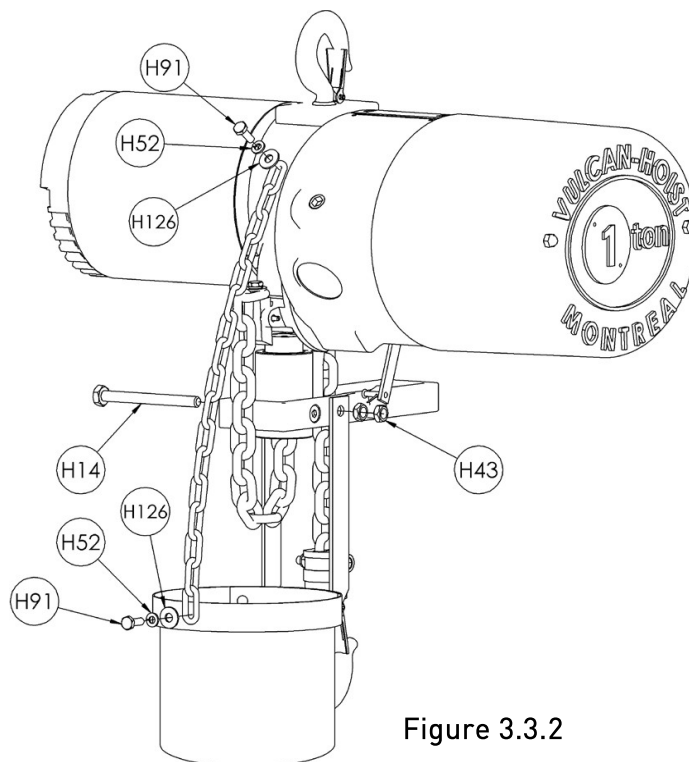

Figure 3.3.2
3. Remove the bolt H14 from the limit lever, install chain container arms on the outside of the limit lever. Install bolt H14 through the chain container arms and limit lever. Install 2 nuts H43 and tighten them against each other. (do not tighten to the limit lever). See Figure 3.3.2 below.